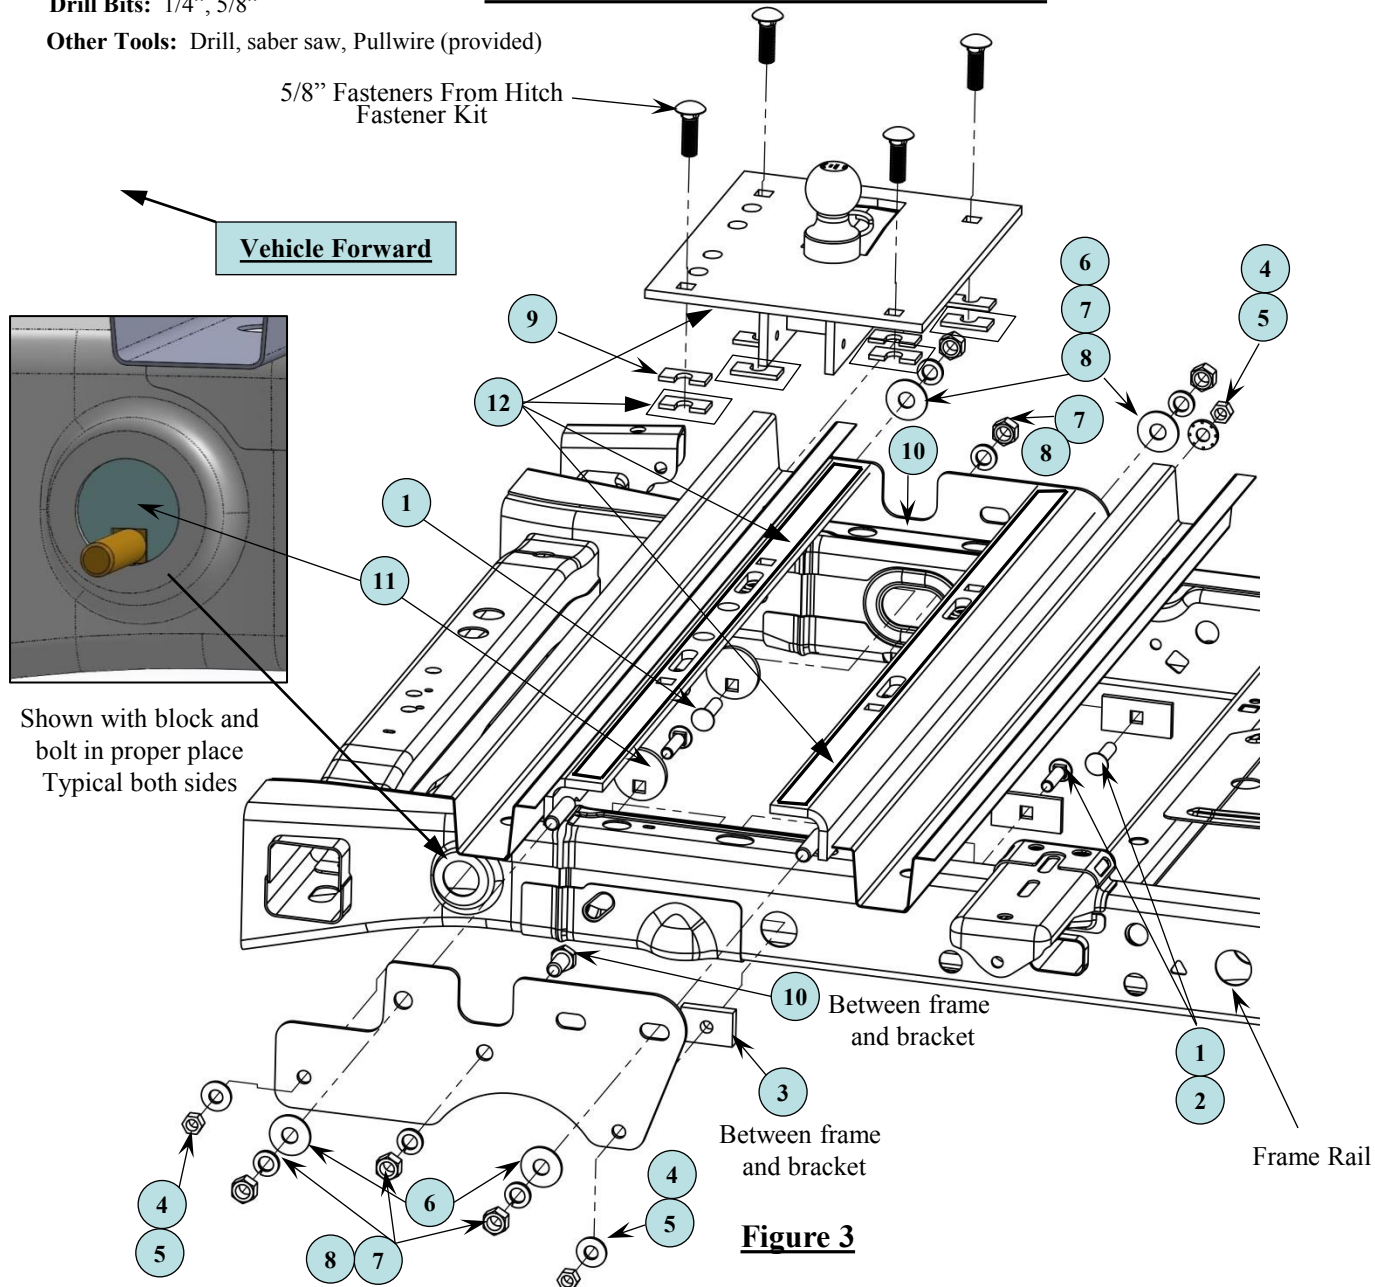

Figure 3
4. Install the hitch frame brackets by aligning the threaded studs on the ends of cross members to the outer set of slots of the brackets. See figure 3. Loosely install the 5/8" flat washers, lock washers, and hex nuts to the threaded studs.
5. **Frame mounting** – One side at a time, slide block (item 3) in place and use the pull wires to insert the 1/2" carriage bolt and blocks into the mounting bracket location through the large slot on the inside of the frame. Take special note on orientation of the round block of the front frame mount. There is a hole on the inside of the frame that will allow you to check for proper placement of the block. Loosely install the 1/2" conical tooth lock washer and hex nuts to the frame bracket. Repeat on other side. See figure 3.